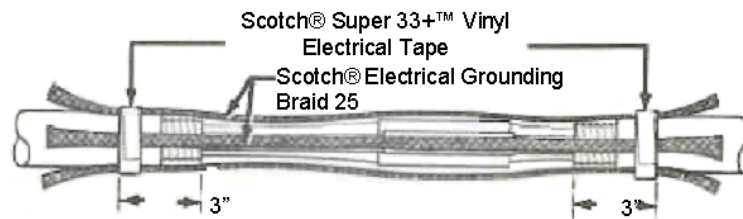

Figure 4
2. Position the 3 braids across splice opening and hold in place with Scotch® Super 33+™ Vinyl Electrical Tape at 3" (76 mm) beyond ends of cable armor. (Figure 4)